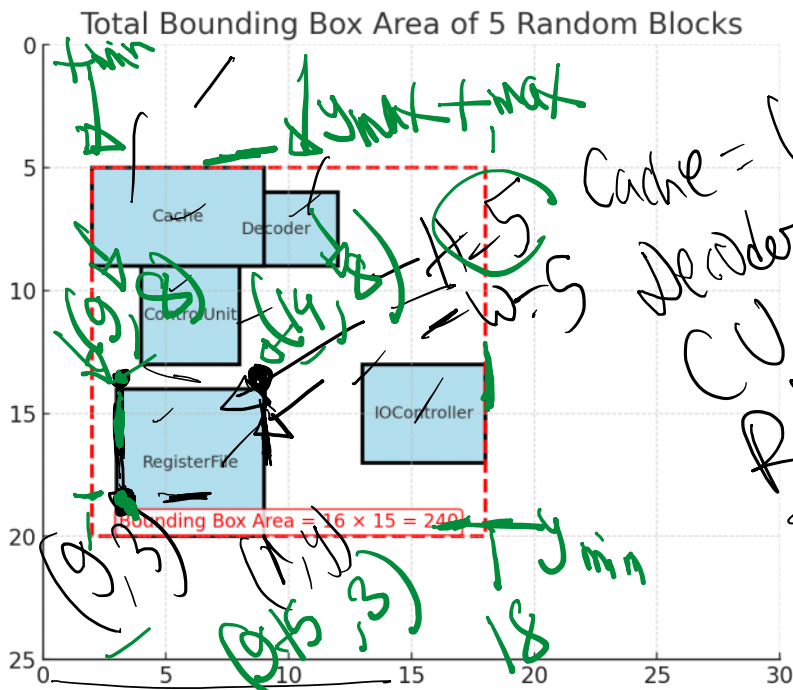
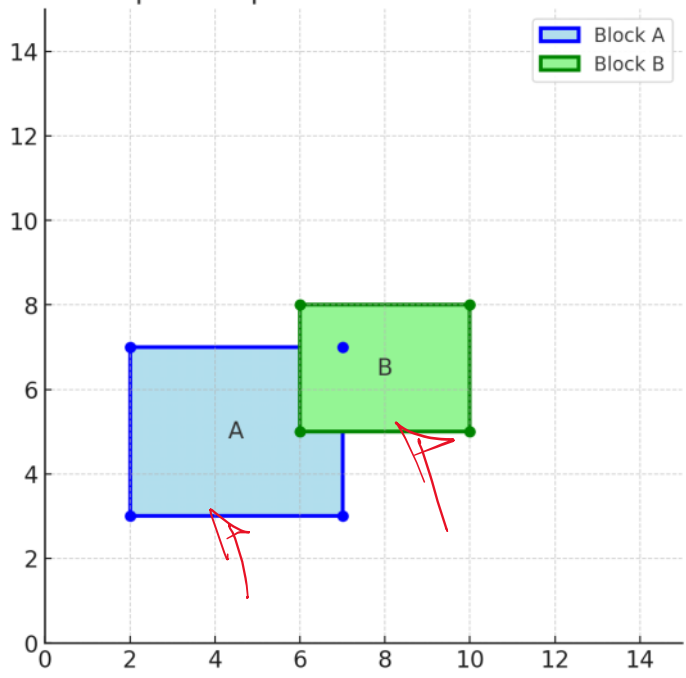

Figure 2
Figure 3
2. **Minimizing the total bounding area:** Figure 2 above hints at how the total bounding area can be calculated for a random placement of 5 component blocks. The red dashed rectangle is the bounding box- aka the smallest rectangle that contains all of the blocks inside. Given the bottom left coordinates (x,y) for all block components, you can easily find out the minimum and maximum of all x and y values, which will help you to calculate the area of such a bounding box $((x_{max} - x_{min}) * (y_{max} - y_{min}))$. The smaller the bounding box area is, the better the layout is.
3. **Minimizing total component overlaps:** In Figure 2, there exists an overlap between the two components (cache and decoder). A single block can, in fact, be overlapped with multiple other blocks in a random placement. **Overlaps are not desirable.** Hence, a heavy penalty will be applied for each overlapping block pair. For any two block pairs A and B (Figure 3), one possible way to figure out the overlap is by checking the following condition:
block pairs A and B (Figure 3), one possible way to figure out the overlap is by checking the following condition: